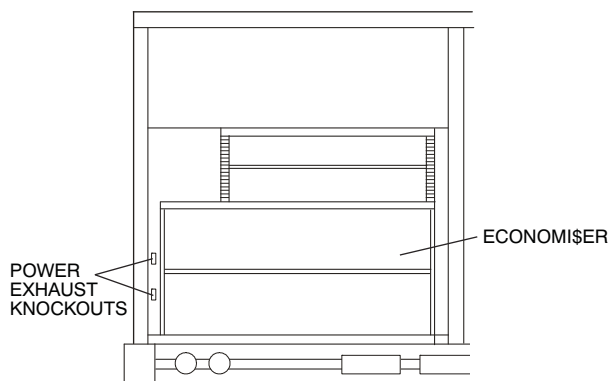

Fig. 3 - Power Exhaust Knockout Location
4. Remove the power exhaust knockout plugs located on the lower left side of the Economi\$er. (See Fig. 3.)
2. Insert the 2-wire low voltage harness plug from the power exhaust into the top knockout on the Economiser. (See Fig. 3 and 4.)
6. Insert the high voltage harness plug from the power exhaust into the bottom knockout on the Economiser. (See Fig. 3 and 4.)
2. Insert the 2-wire low voltage harness plug from the power exhaust into the top knockout on the Economi\$er2. (See Fig. 3 and 8.)
6. Insert the high voltage harness plug from the power exhaust into the bottom knockout on the Economi\$er2. (See Fig. 3 and 8.)